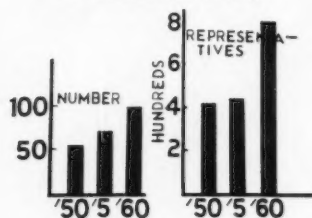

Fig. 2
- 2 The number of committees increased from 59 in 1950 to 100 in 1960, while the number of committee members grew from 411 to over 800 in that period (Fig. 2).